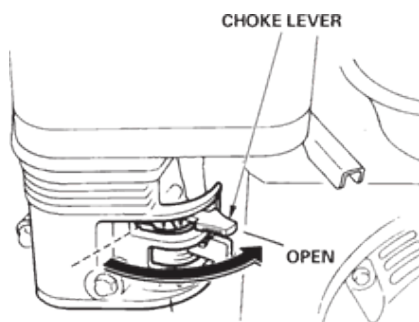

FIGURE 8
9.4 Place the choke lever (Figure 8) in the "OPEN" position if starting a warm engine or the temperature is warm.